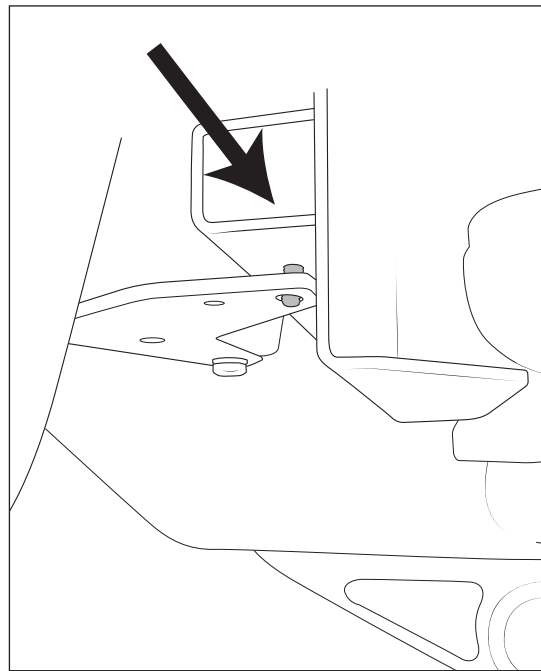

Figure 5
- Align Amp Step Pad bracket along frame holes the bolts were removed from. Use the bolts from step 1 to secure the amp step bracket to the frame of the vehicle (fig. 5)